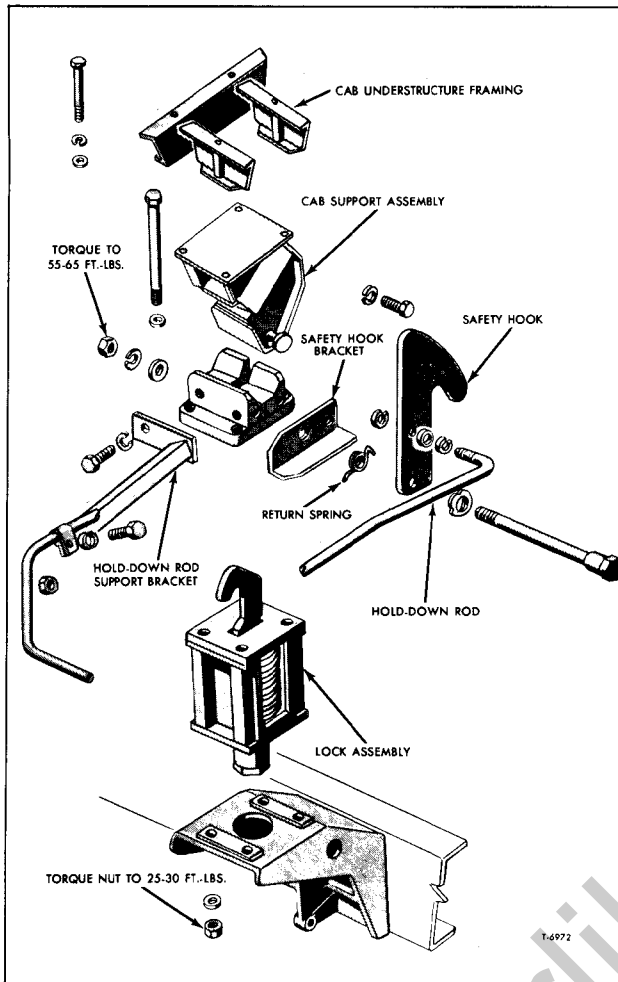

Figure 9—Rear Mounting and Hydraulic Latch
(Refer to Fig. 9)
5. Reverse removal procedure for installing cab latch assembly noting torque specifications as shown in figure 9.